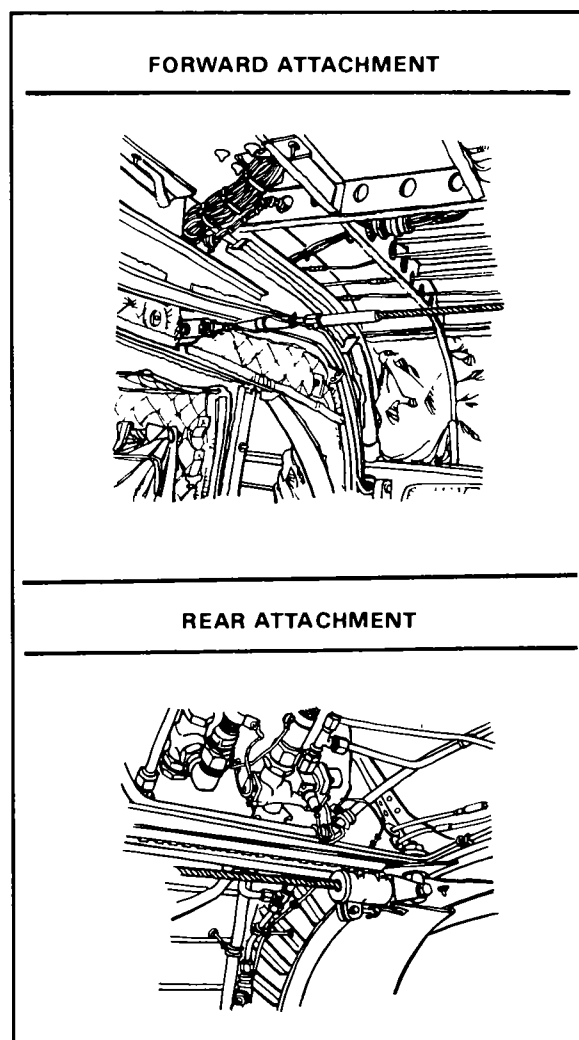

Figure 12-18. Anchor line cable attachment.
(2) Secure the permanently installed anchor line cable to the attachment points on the starboard side of the aircraft (Figure 12-18).
- (3) Incline the ramp for personnel parachute drops during flight.